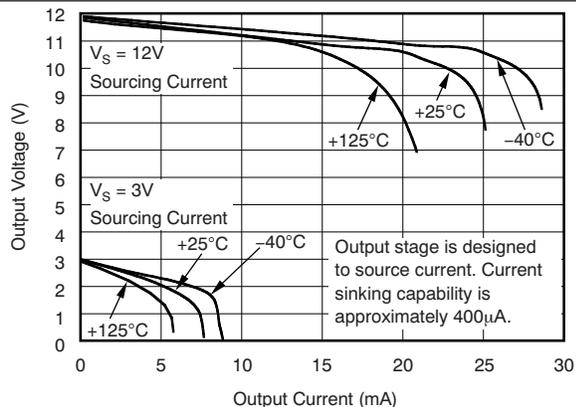

Figure 8. Positive Output Voltage Swing vs Output Current
- (1) Offset is extrapolated from measurements of the output at 20 mV and 100 mV  $V_{SENSE}$ .
- (2) Total output error includes effects of gain error and  $V_{OS}$ .
- (3) Linearity is best fit to a straight line.
- (4) For details on this region of operation, see the Accuracy Variations section.
- (5) See Typical Characteristics curve *Positive Output Voltage Swing vs Output Current* (Figure 8).
- (6) Specified by design; not production tested.